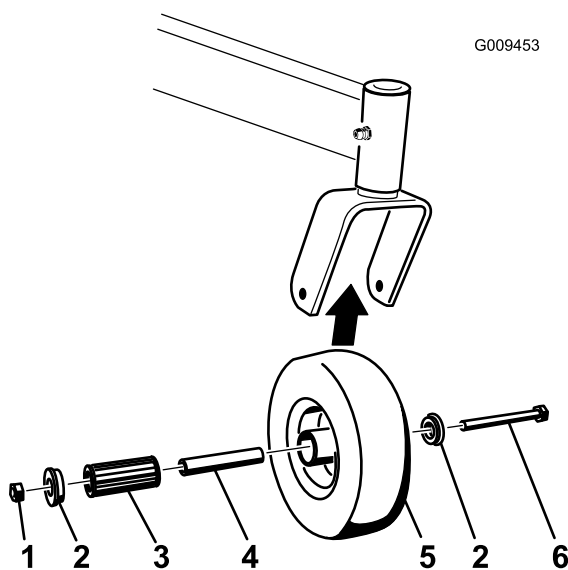

Figure 61
2. Remove one bushing, then pull the spanner bushing and roller bearing out of the wheel hub (Figure 61).
3. Remove the other bushing from the wheel hub, and clean any grease and dirt from the wheel hub (Figure 61).
Note: Replace any defective or worn parts (Figure 61).
5. Place one bushing into the wheel hub (Figure 61).
6. Grease the roller bearing and spanner bushing, and slide them into the wheel hub (Figure 61).
7. Place the second bushing into the wheel hub (Figure 61).
8. Install the caster wheel into the caster fork and secure it with the wheel bolt and locknut (Figure 61).
9. Tighten the locknut until the spanner bushing bottoms against the inside of the caster forks (Figure 61).
1. Remove the locknut and wheel bolt holding the caster wheel to the caster fork (Figure 61).